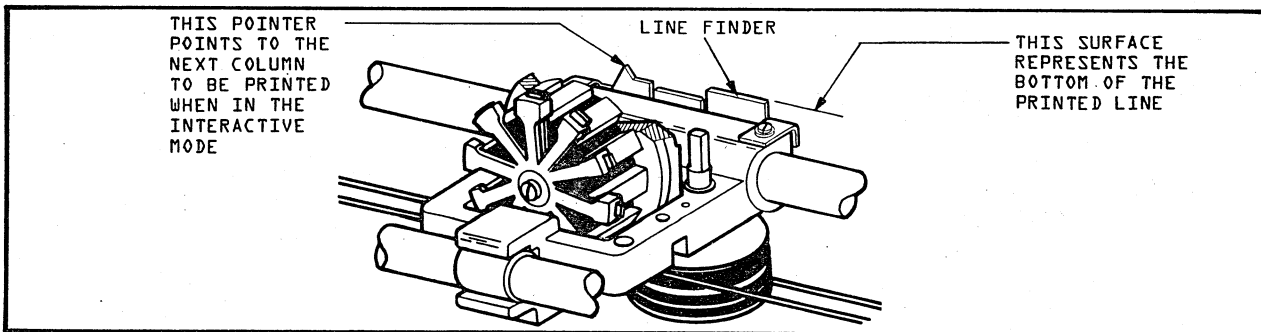

FIGURE 2-4. LINE FINDER AND COLUMN PRINTER
13. Depress the clutch retractor lever and use the forms positioning knob to align the first line of print position on the forms to the print position on the line finder (Figure 2-4). Release the clutch retractor lever.